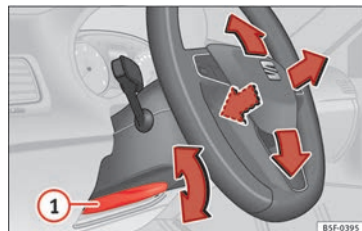

Fig. 19 Lever in the lower left side of the steering column.
- Adjusting the position of the steering wheel: Pull the » **Fig. 19** ① lever down, move the steering wheel to the desired position and lift the lever back up until it locks.